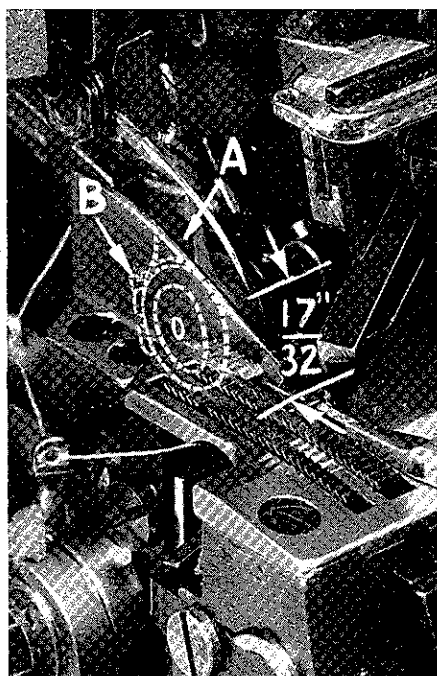

Fig. 3
With throat plate assembled in position, needle should center in the front end of needle slot. When needle is at high position, needle point should be set $17/32$ inch above throat plate (Fig. 3). To align needle or set the height above throat plate, move needle driving arm (A, Fig. 3) by loosening clamp screw (B). Remove throat plate, after needle has been set properly and clamp screw (B) has been tighten.